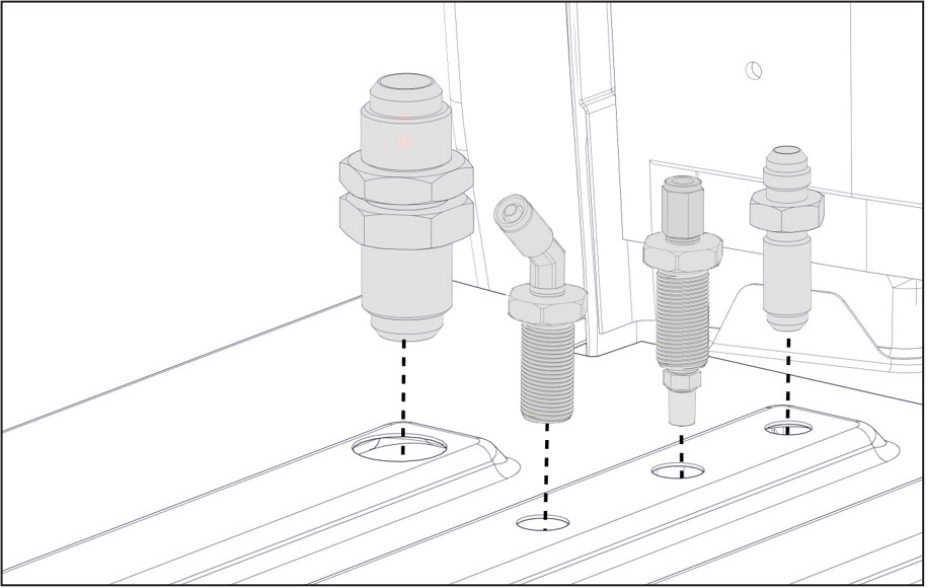
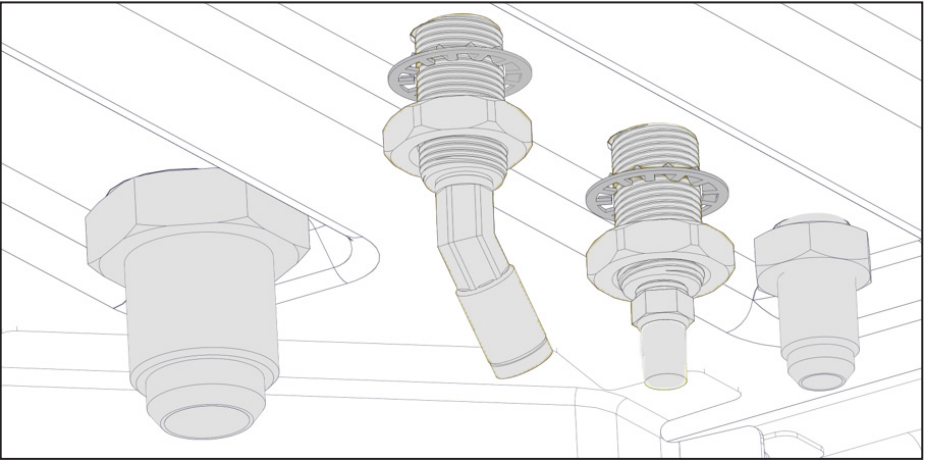

Figure 30 — Interior view
Figure 31 — Exterior View
- Fit the bulkhead fittings through the top of the hole and secure from the bottom with the supplied nuts. Apply Loctite 567 (thread sealant) when installing the 1/4 in push-to-connect fittings in the bulkhead fittings (Figure 30 and Figure 31).